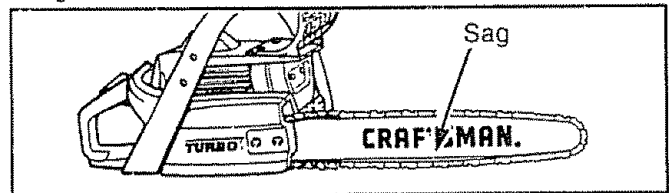

Figure 29
- If chain is too loose, it will sag below the guide bar (Figure 29).